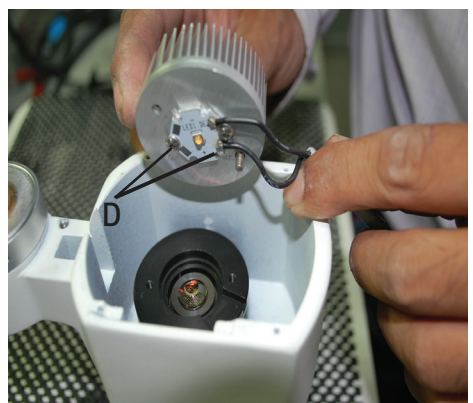

Figure-27
6. Unscrew the LED from heat sink by unscrewing the two screwing shown as “D”. refer to figure-27.